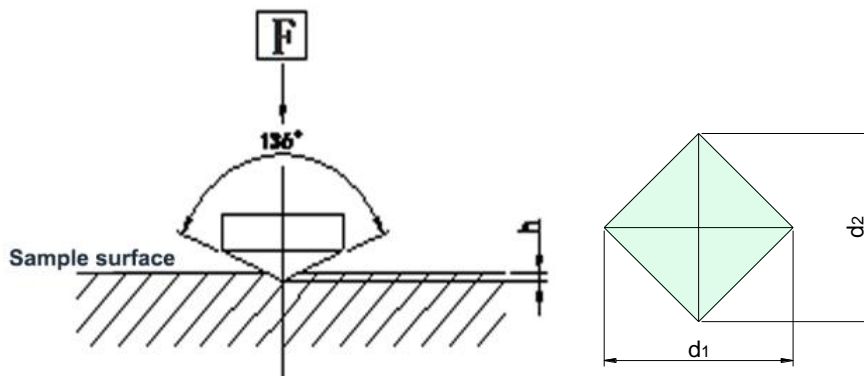

Figure 1.1 Principle of Vickers test
The Vickers hardness test is to use a 136° regular diamond indenter to press into the surface of the object to be tested with a specified test force (F). After the specified time of maintaining the test force, the test force is removed, and the test piece is measured with a micrometer eyepiece. The diagonal line of the indentation on the surface (d), calculate the average pressure (N/mm2) of the conical surface area of the indentation, which is the Vickers hardness value. (See Figure 1.1 for details).